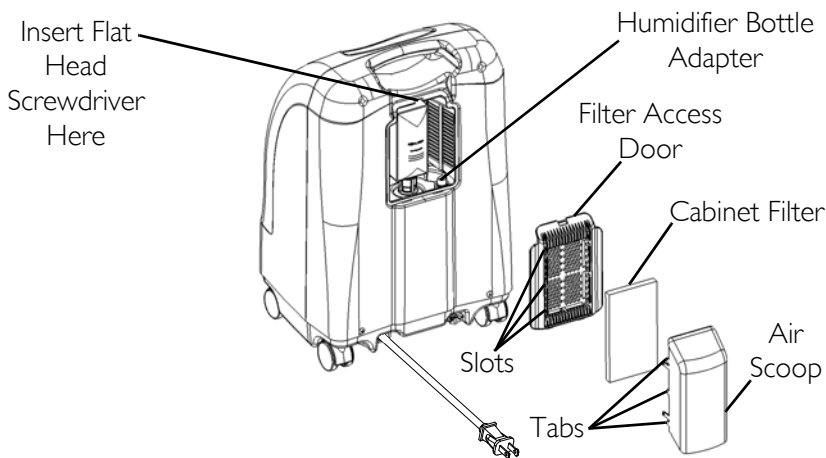
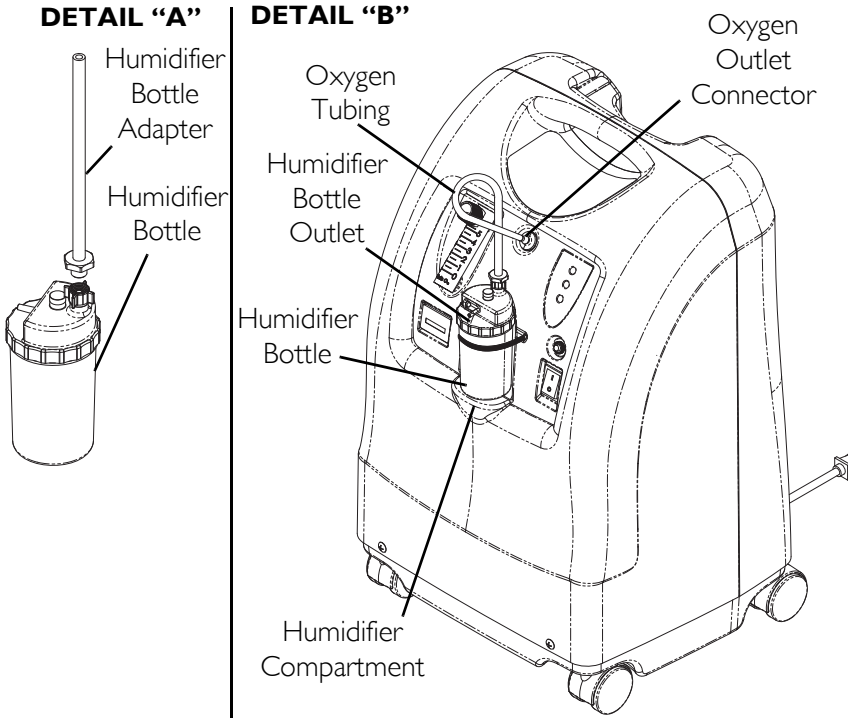

FIGURE 6.2 Humidifier Bottle Adapter
FIGURE 6.3 Humidifier Compartment
NOTE: For this procedure, refer to FIGURE 6.1, FIGURE 6.2 on page 19, FIGURE 6.3 on page 20.
3. Insert a flathead screwdriver in the plate groove on the top edge of the filter access door and gently pry the filter access door off (FIGURE 6.2).
4. Pull up and remove the humidifier bottle adapter (FIGURE 6.2).
6. Attach the humidifier bottle adapter to the humidifier bottle by turning the wing nut on the humidifier bottle counterclockwise until it is securely fastened. See Detail "A" in FIGURE 6.3.
7. Place the humidifier bottle/adapter assembly in the humidifier compartment on the concentrator. See Detail "B" in FIGURE 6.3.
8. Attach oxygen tubing from the humidifier bottle/adapter assembly to oxygen outlet connector on the concentrator. See Detail "B" in FIGURE 6.3.
9. Attach the cannula/patient supply tubing to the humidifier bottle outlet. See Detail "B" in FIGURE 6.3.